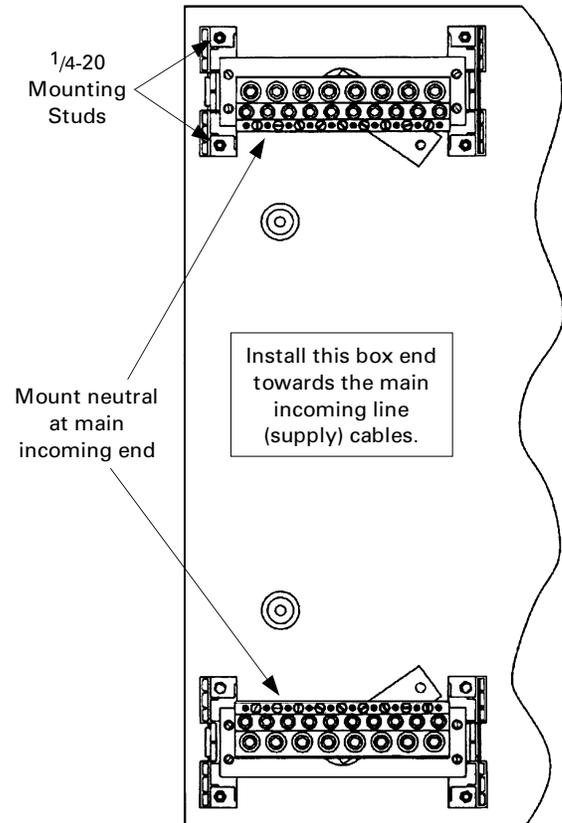
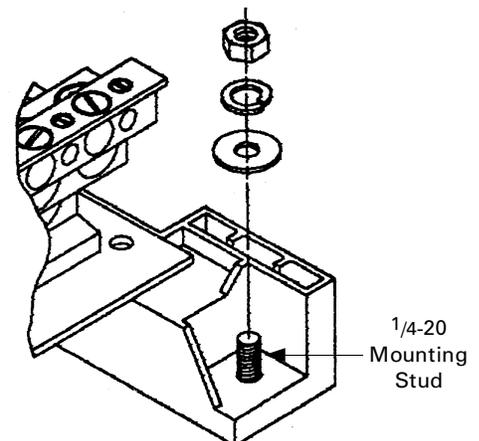

Figure 1. Neutral mounted in the enclosure.
Figure 2. Mounting the neutral onto the enclosure studs.
2. Mount the neutral at either location in the end of the panelboard enclosure marked **NEUTRAL**, as shown in Figure 1. Place the neutral over the $\frac{1}{4} \times 20$ mounting studs and secure with the flat washer, lock washer, and nut provided, as shown in Figure 2. Tighten the nut to 27–32 in.-lbs.